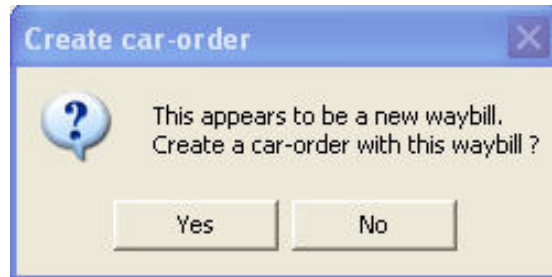

Figure 12-4
2. As you saw in Chapter 8, when you enter a waybill and save it you may be presented with the window in shown Figure 12-4. Since we're adding a bunch of waybills at this time, we'll click on the "No" button and add the car-orders later.